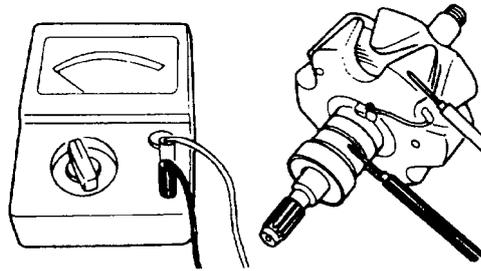

Figure 294 Rotor and Slip Ring Earth Test
- (5) Check for continuity between the slip ring and rotor core (or shaft). If continuity exists, replace the rotor assembly (Figure 294).